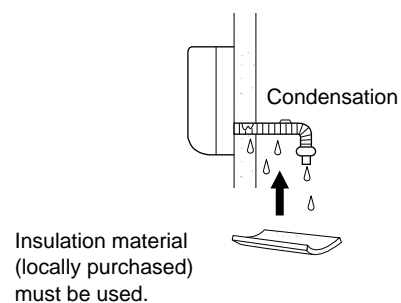

Fig. 31
- If the drain hose will run in the room, insulate the hose with insulation\* so that chilled condensation will not damage furniture or floors. (Fig. 31)